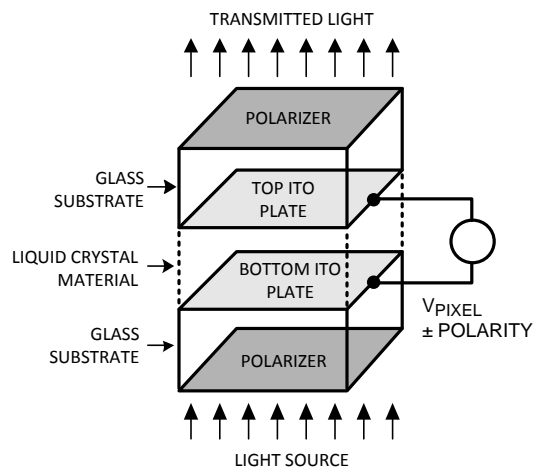

Figure 26. Individual LCD Pixel
To better understand these op amp applications, let's first review a few basic concepts of how a TFT display operates. Figure 26 is a simplified illustration of an LCD pixel. The top and bottom plates of each pixel consist of Indium-Tin oxide (ITO), which is a transparent, electrically conductive material. ITO lies on the inner surfaces of two glass substrates that are the front and back glass panels of a TFT display. Sandwiched between the two ITO plates is an insulating material (liquid crystal) that alters the polarization of light to a lesser or greater amount, depending on how much voltage ( $V_{PIXEL}$ ) is applied across the two plates. Polarizers are placed on the outer surfaces of the two glass substrates, which in combination with the liquid crystal create a variable light filter that modulates light transmitted from the back to the front of a display. A pixel's bottom plate lies on the backside of a display where a light source is applied, and the top plate lies on the front, facing the viewer. On a Twisted Neumatic (TN) display, which is typical of most TFT displays, a pixel transmits the greatest amount of light when  $V_{PIXEL}$  is less than  $\pm 0.5V$ , and it becomes less transparent as this voltage increases with either a positive or negative polarity. In short, an LCD pixel can be thought of as a capacitor, through which, a controlled amount of light is transmitted by varying  $V_{PIXEL}$ .